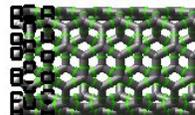

Figure 15
7. Add anchors to the selected atoms by clicking Simulation → Anchors. (Figure 15)